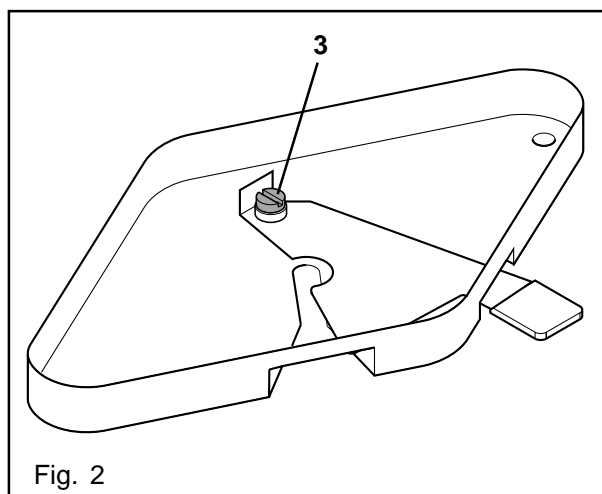

Fig. 2
- When replacing, the screw (3) has to be fastened by means of Loctite. (Fig. 2)
- Unlock the outlet (5) and tilt it upwards (fig. 2). When re-installing, make sure that the outlet is locked into place.
- Pull off the hot water hose (4). (Fig. 2)
- Remove the angle of the water inlet for the brewer (3) from the brewer, and push it to the side. (Fig. 2)